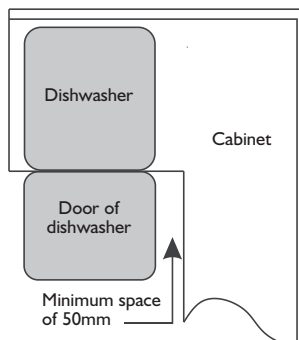

Fig. 2
2. If dishwasher is installed at the corner of the cabinet, there should be some space (illustrated in figure 2) when the door is opened.